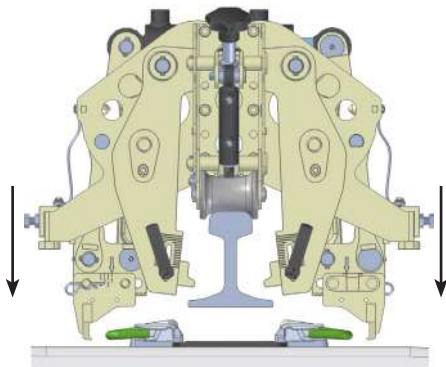

Fig. 38
1. Release the dead-mans-handle and let the work head be lowered so that the shoes reach down to the sleeper level (Fig. 38).